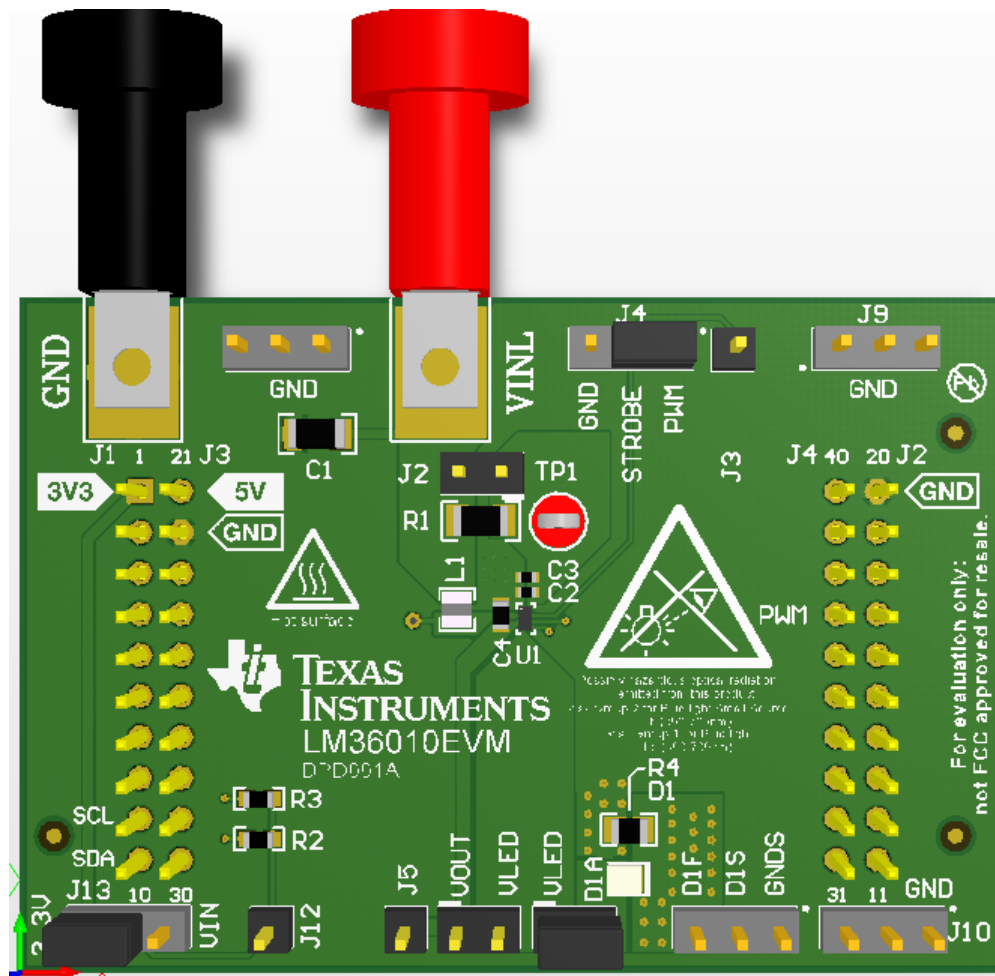
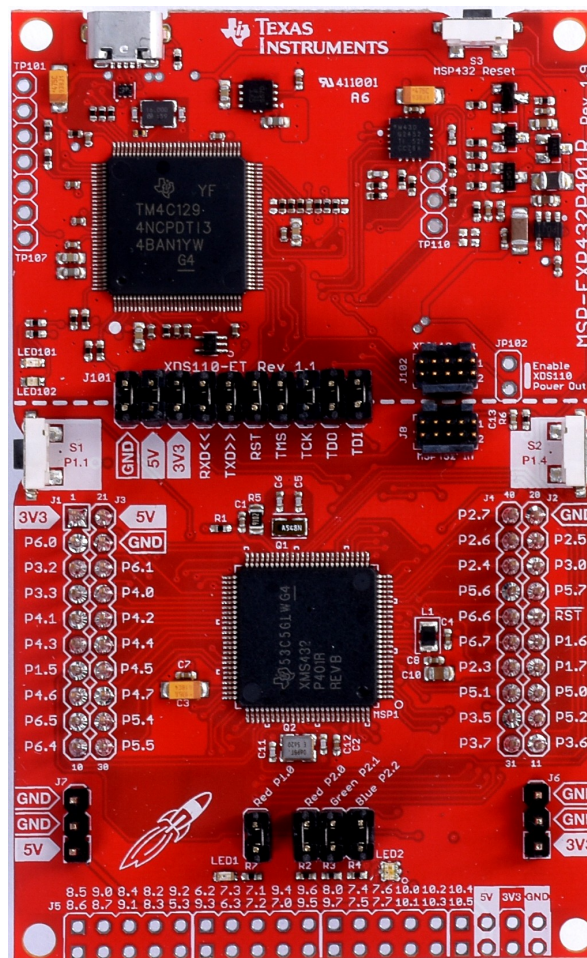

Figure 4. LM36010EVM Jumper Configuration
Figure 7. MSP432 LaunchPad Jumper Configuration
Configuration of LM36010EVM jumpers is as shown in Figure 4.
1. Verify jumper configuration on the MSP-EXP432P401R LaunchPad and the LM36010EVM as in Figure 7 and Figure 4, respectively.
Configuration of MSP432 LaunchPad jumpers is as shown in Figure 7.